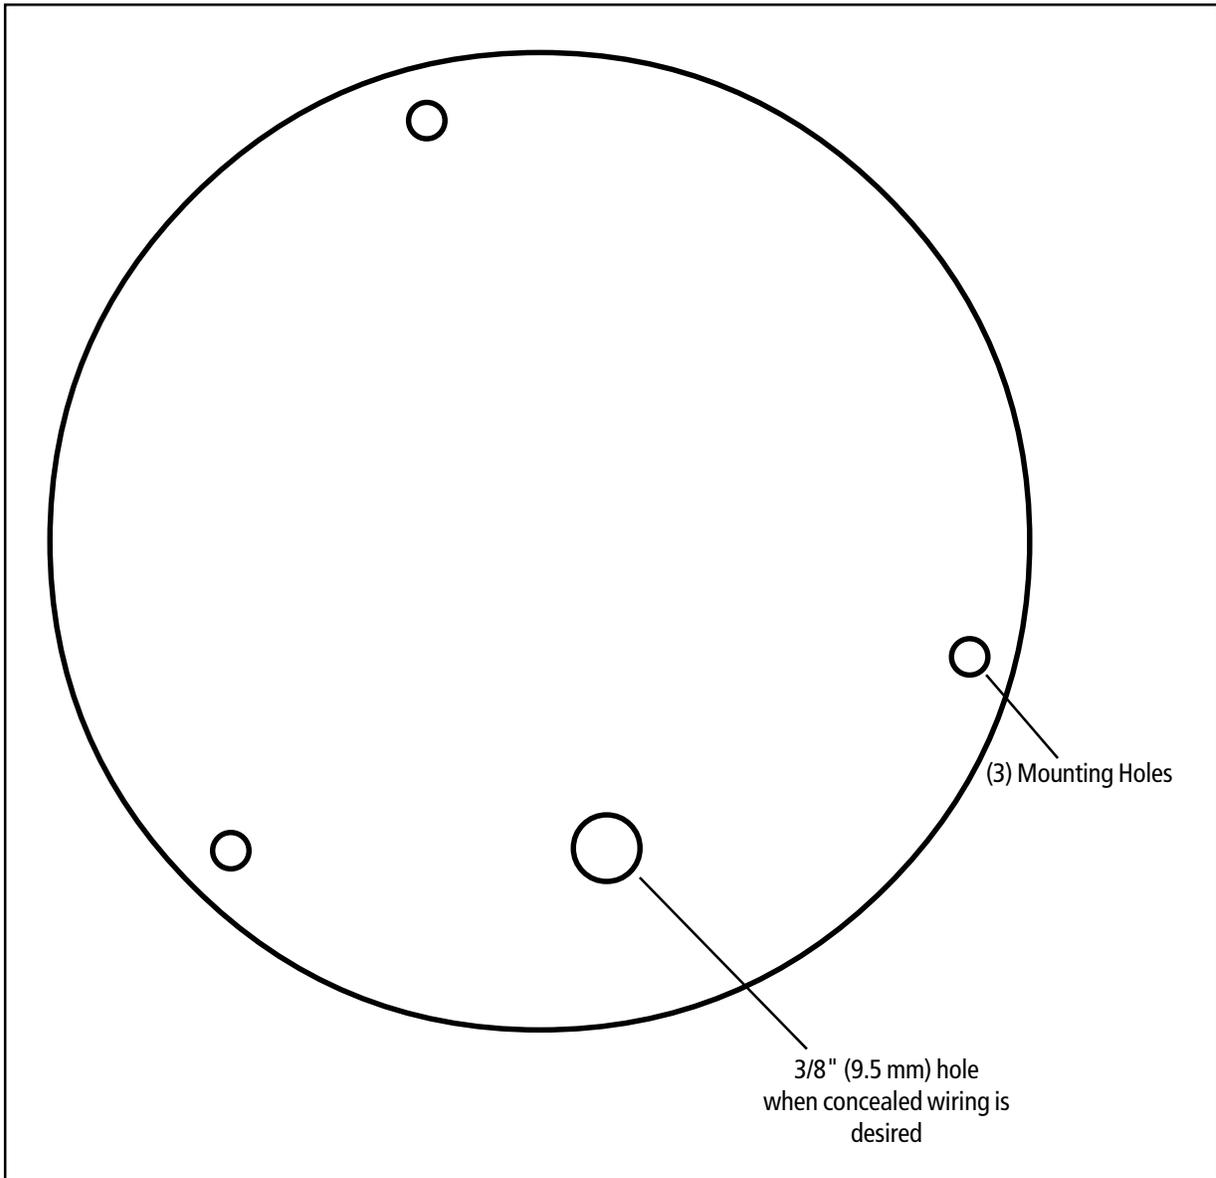

Figure 3. Mounting Template
2. Using the template provided (Figure 3), drill 3 mounting holes and a hole for concealed wiring, if desired.
4. Align the provided gasket and the flange on the mounting holes and secure using (3) screws, lockwashers and nuts (supplied).